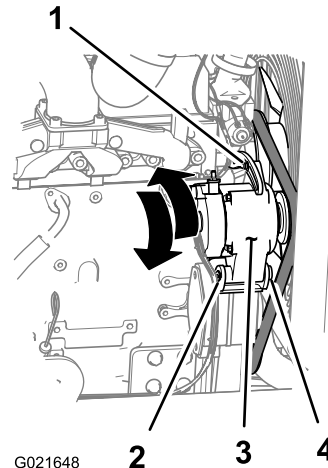

Figure 107
3. Loosen the nut and bolt at the pivot point for the alternator (Figure 107).
4. Loosen the adjustment bolt on the alternator (Figure 107).
5. Move the alternator away from the engine to increase the belt tension; move the alternator toward the engine to decrease the belt tension (Figure 107).
6. Tighten the alternator adjustment bolt (Figure 107).
8. If the belt tension is correct, tighten the nut and bolt at the pivot point for the alternator (Figure 107); otherwise repeat steps 4 through 7.